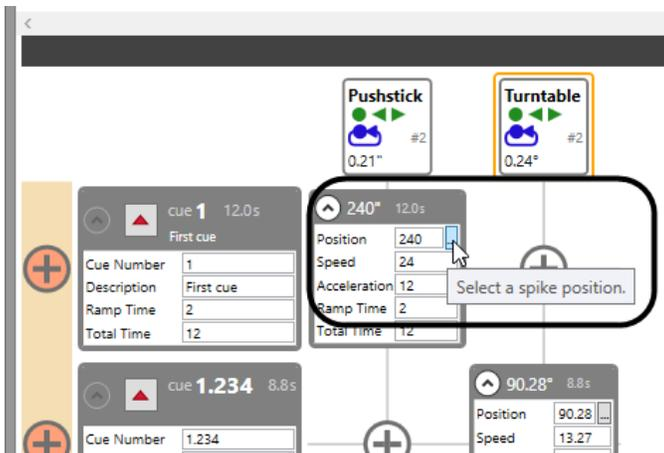

Figure 50
1. Click on the “...” button next to the **Position** field in the *Pushstick Movement* panel for *Cue 1* (Figure 50).